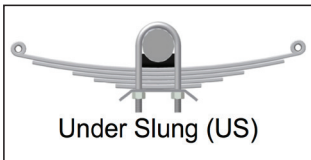

figure 2
If axles are Under Slung (US) as shown in figure 2, ALL frame hangers need to be a minimum of 4 1/4" tall.